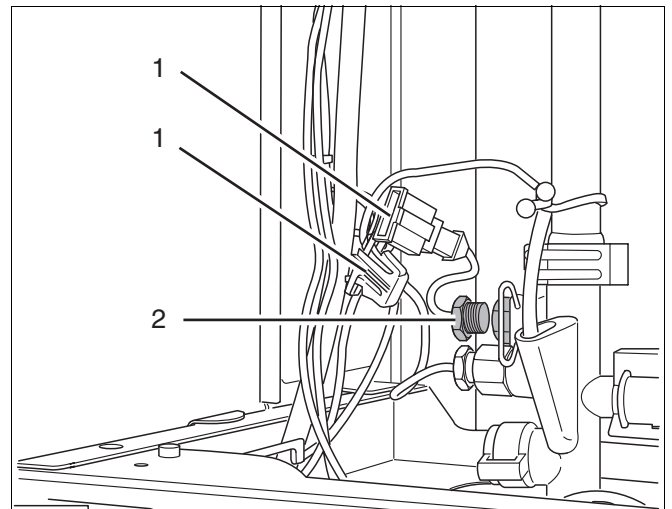

Fig. 52 Buderus 600 - 11R / 19R / 24R: replacing the flow sensor
- Loosen the plug-in connection (fig. 52, item 1).
- Unscrew the sensor (fig. 52, item 2) and replace with a new unit.